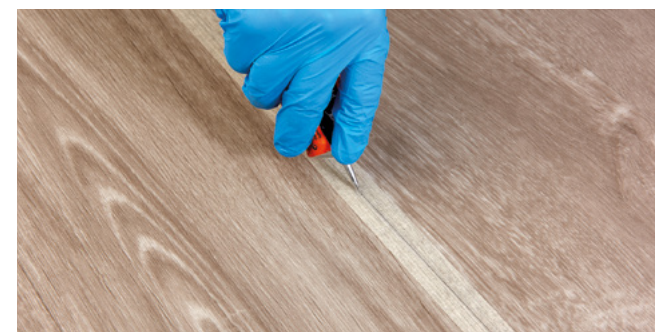

Figure 7 Cold welding
- > Cut through the tape at the seam, using a trapezoid or rolling knife with a sharp blade. Apply the welding liquid (fig. 7), as per the Werner Muller instructions, ensuring both hands are controlling the tube.